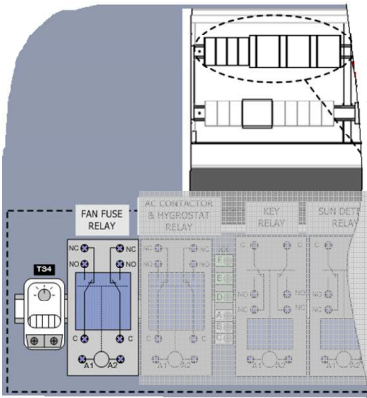
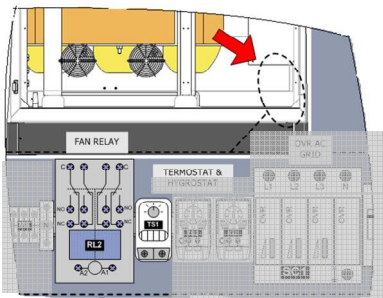

Figure 17-6: Fan Framework Thermostat
Figure 17-7: Fan Transformer Thermostat
- ➔ Note the current position of the thermostat shown in Figure 17-6 and Figure 17-7 (in order to restore the initial condition later: it is normally set at approx. 40°C).